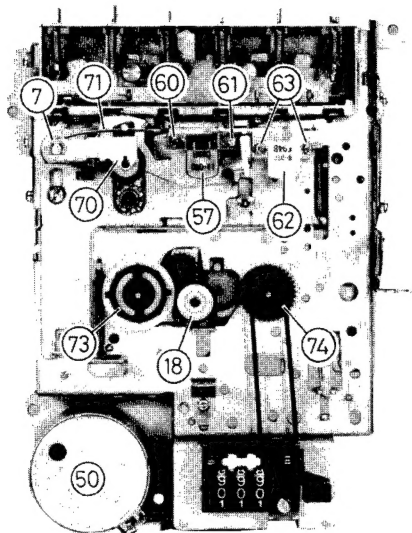

Fig. 13
- 1) Position the mechanism shown in Fig. 13 with the motor side down, enter the recorder into the playback mode, and hang a tension gauge on the protrusion part of the pinch roller arm shown in Fig. 13. Next, confirm that when slowly pulling the tension gauge, the pinch roller stops rotating in the range of 450–550 g.